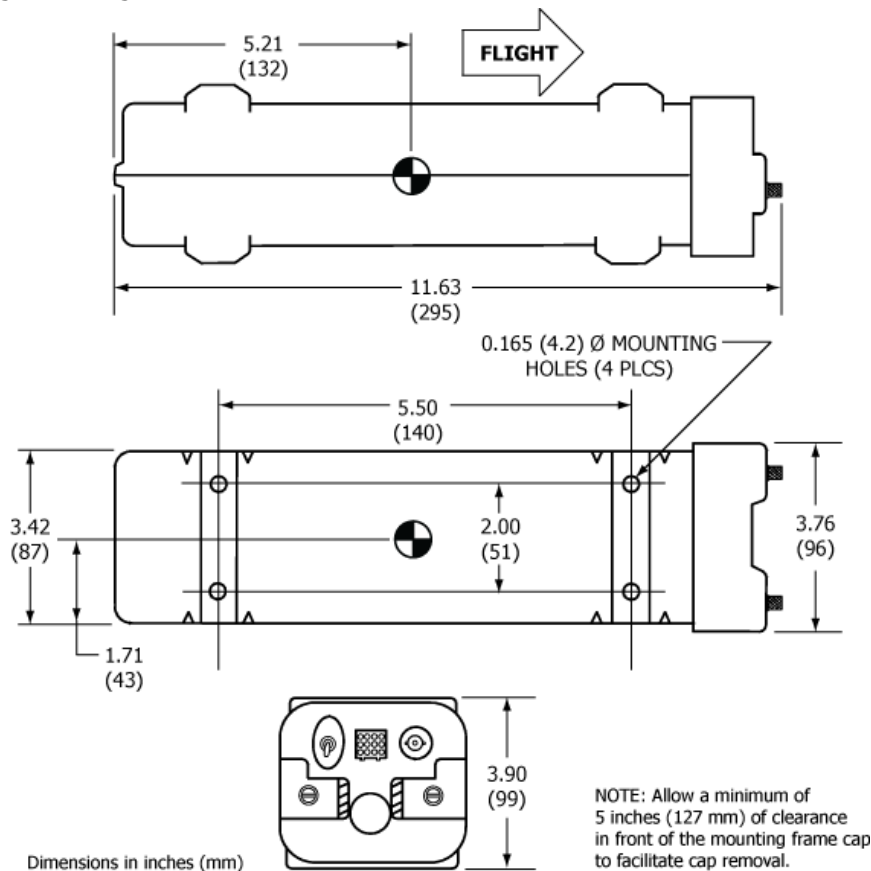

Figure 13 C406-1 Series ELT Outline and Dimensions
- 1) Select a suitable location for the mounting tray. See Figure 13. Refer to these dimensions when determining mounting location.
- 4) Mark the four holes needed for mounting the tray, using the tray as a pattern. The hole pattern is also illustrated in Figure 13 on page 40.